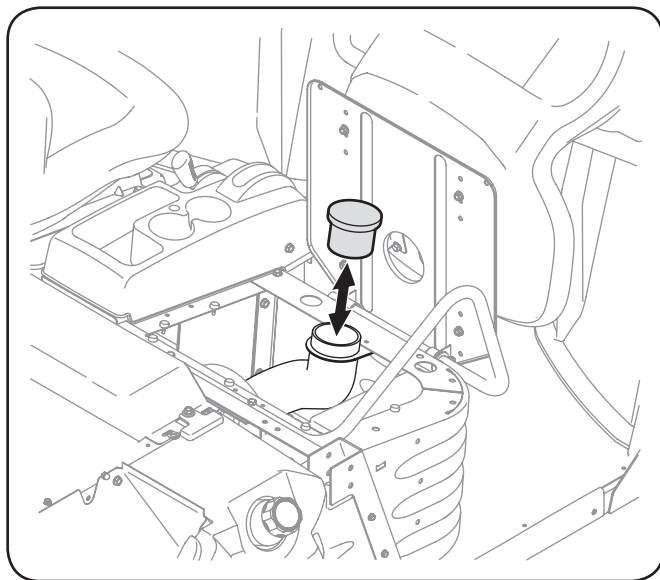

Figure 5-12
2. Simply pull the filter out of the CVT inlet tube, shown in Figure 5-12, and wash with soapy water.